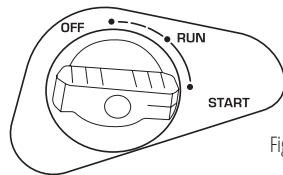

Fig. 4
4. Turn the air choke control knob to the "OFF" position (fig. 4).